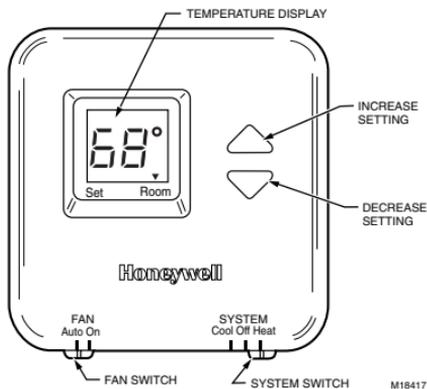

Fig. 8. Digital display and system switches (FAN and SYSTEM).
Fan and system settings are controlled manually by using the switches located at the bottom of the thermostat case. See Fig. 8.
- Select Heat or Cool by sliding the SYSTEM switch in the lower right corner of the thermostat to the desired mode. See Fig. 8.